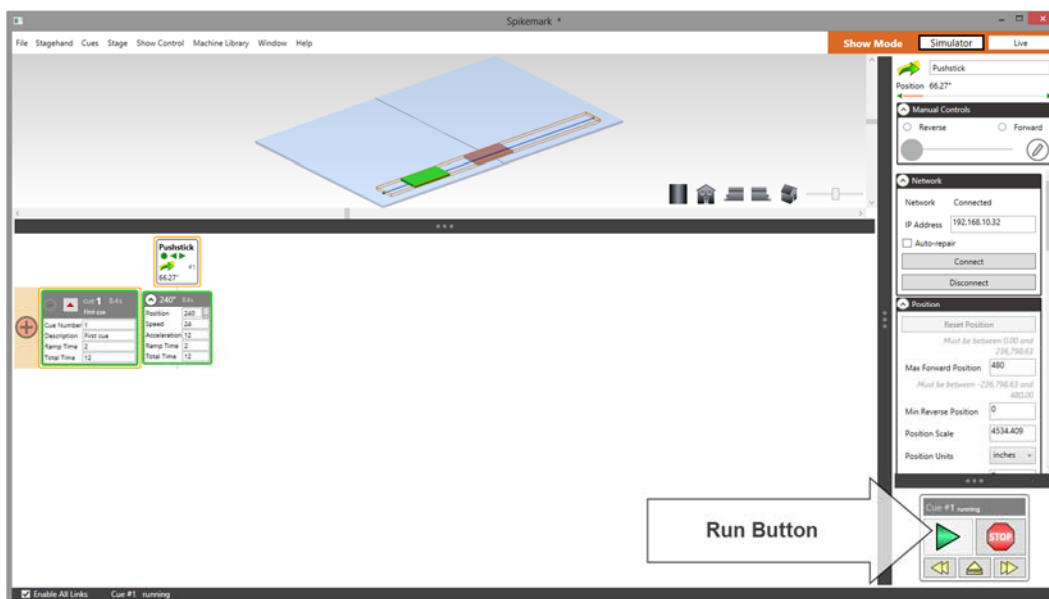
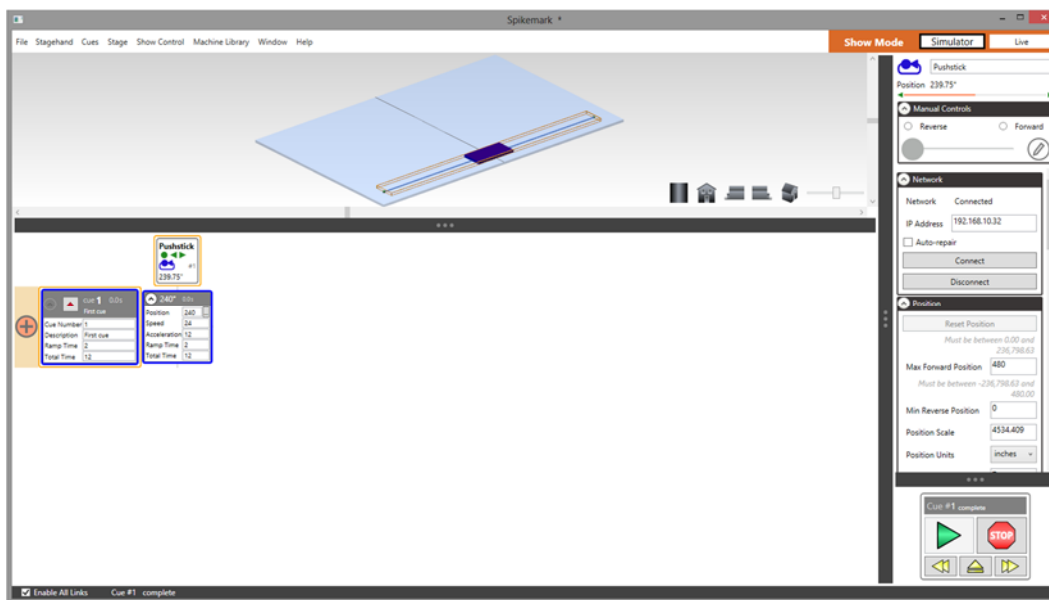

Figure 27
Figure 28
7. Press the **Run** button to watch the *Pushstick* wagon move across the stage. It turns green while running (Figure 27) and then blue when it completes the cue (Figure 28). That's it, you wrote your first automation cue!